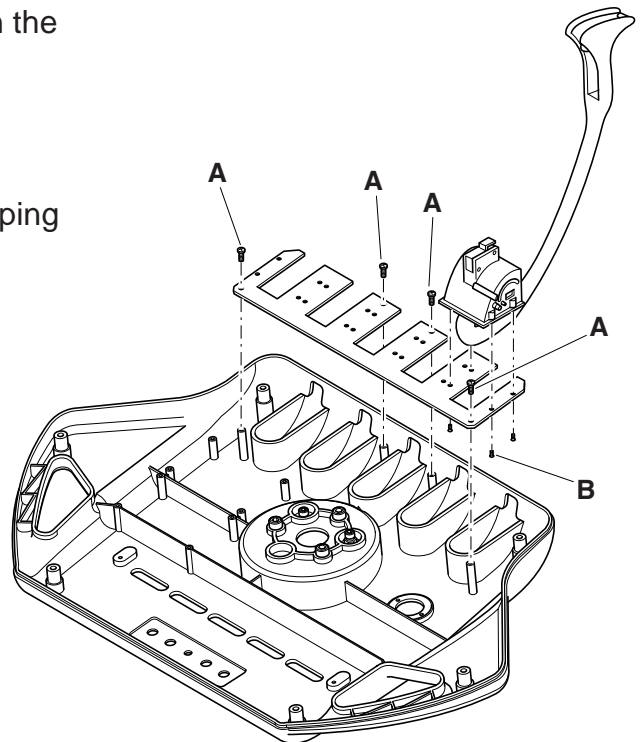

Fig.1
- 1) By following the Installation Manual, disassemble the seat "A". Disassemble the armrests "B", the under-seat cover "C" and the bracket closing cover "D" (Fig.1).